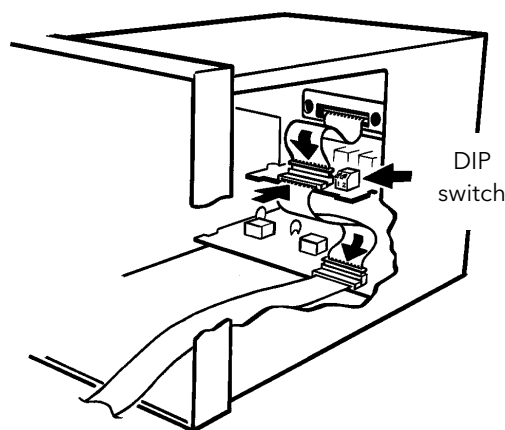

Figure 8 Set DIP switches and fit flexi cables
14. Set any necessary DIP switches (see figure 8 for location) or links, as shown in tables 1 (page 2).
- 15a Option board 1 is connected to the PSU and either option board 3 (if fitted) or to the main/input board, as shown in figure 8, if option board 3 is not fitted.